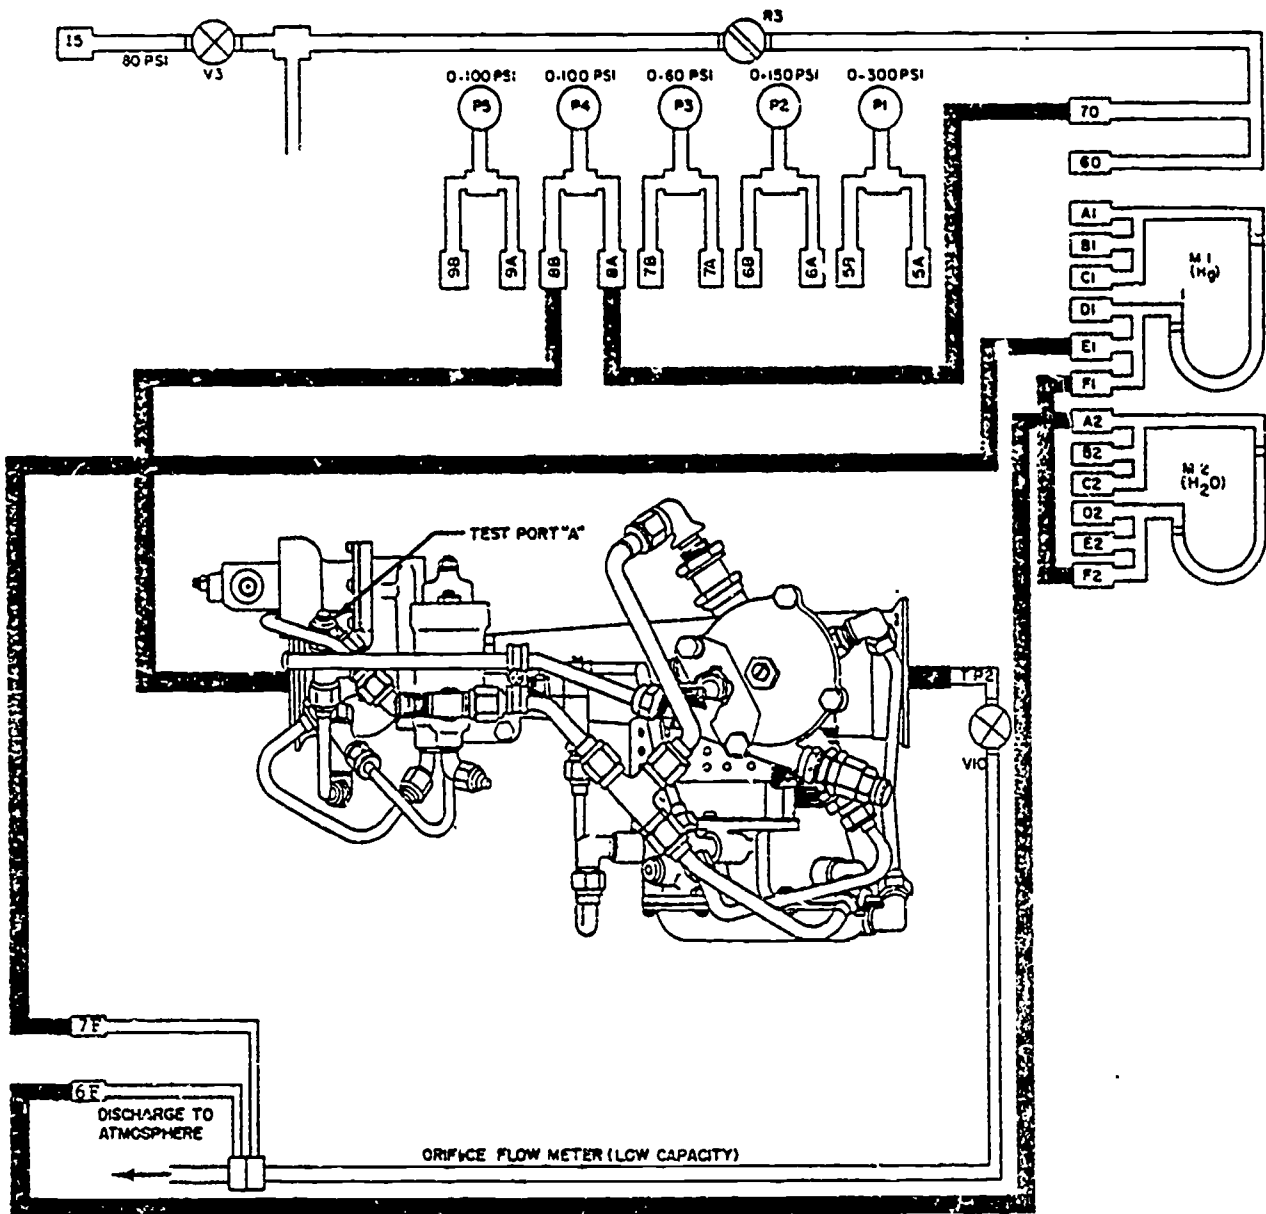

Figure 4
2. Connect the pneumatic hoses, shown in figure 4 by the heavy black lines, to the trainer pneumatic patching panel and the valve. Check off each item and make your responses on the response sheet.